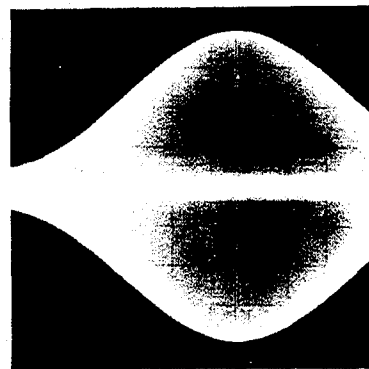

Fig. 19-1
3. Make the V/div of oscilloscope into VARIABLE, and match the upper section of waveform to 7 div as shown in Fig. 19-1.